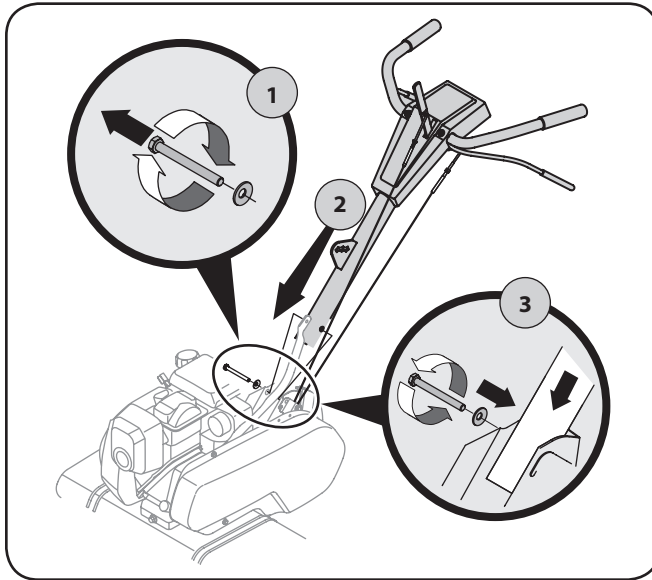

Figure 3-3
- Remove the hex bolt and cupped washer from the right side of the frame. Hold the cable guide bracket on the left side of frame as it will fall when the bolt is removed. Step 1 in Fig. 3-3.
- Insert the handle into tiller frame as shown. Step 2 in Fig. 3-3.
- Insert the bolt through the cupped washer, frame, handle and into the cable guide bracket (note the notch in the cable guide bracket goes over the flange on the frame.) Step 3 in Fig. 3-3.